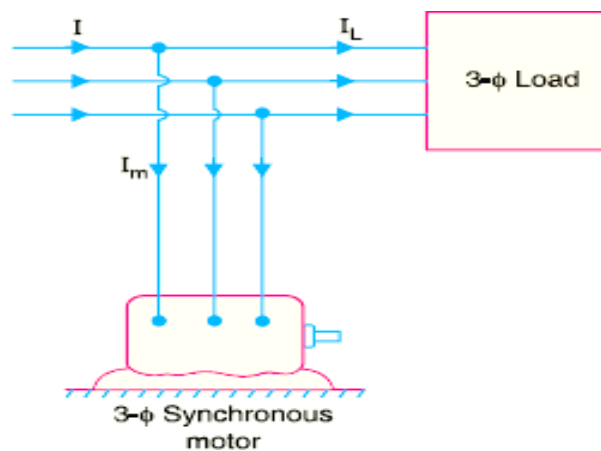

Fig 4.11 Synchronous Condensers
- Synchronous Condensers(fig 4.11)